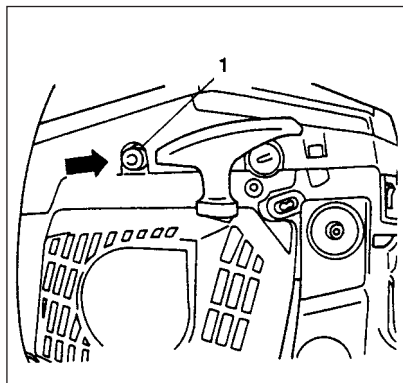

Fig. 2-2B
1. Set ignition switch (1) to ON position.
* Press the decompression valve (1) (if so equipped. This valve will return when engine started). (Fig. 2-2B)